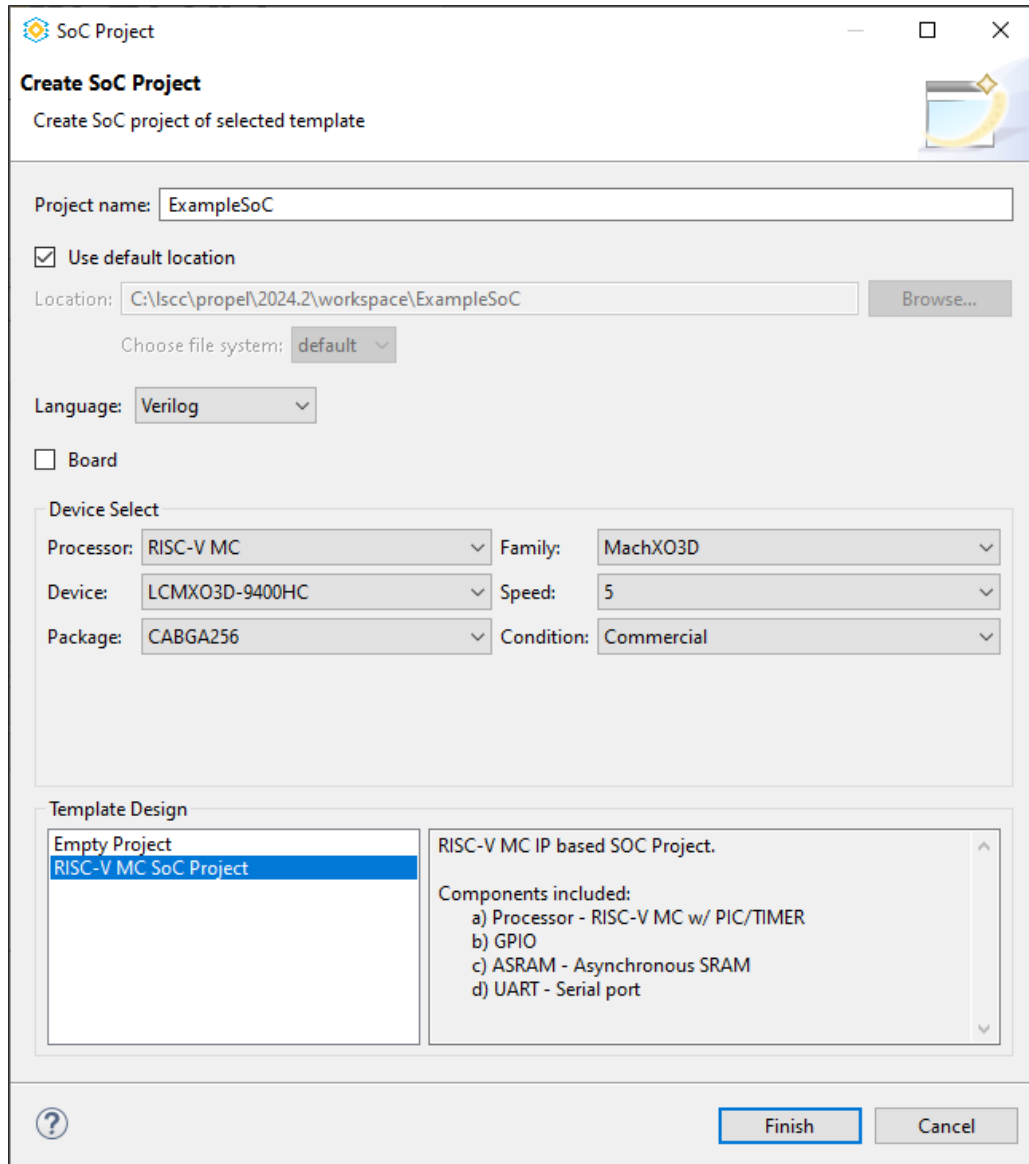

Figure 3.11. Specify a Device for Template SoC Project
The **Create SoC Project** wizard opens (Figure 3.11). In the **Create SoC Project** wizard, you can specify a device or a board for a Template SoC project.
- To specify a device for your new Template SoC project, use the drop-down menu to select the desired device information, including **Processor**, **Family**, **Device**, **Package**, **Speed**, and **Condition**. Also, select RISC-V SoC Project or Empty Project in the **Template Design** field (Figure 3.11).